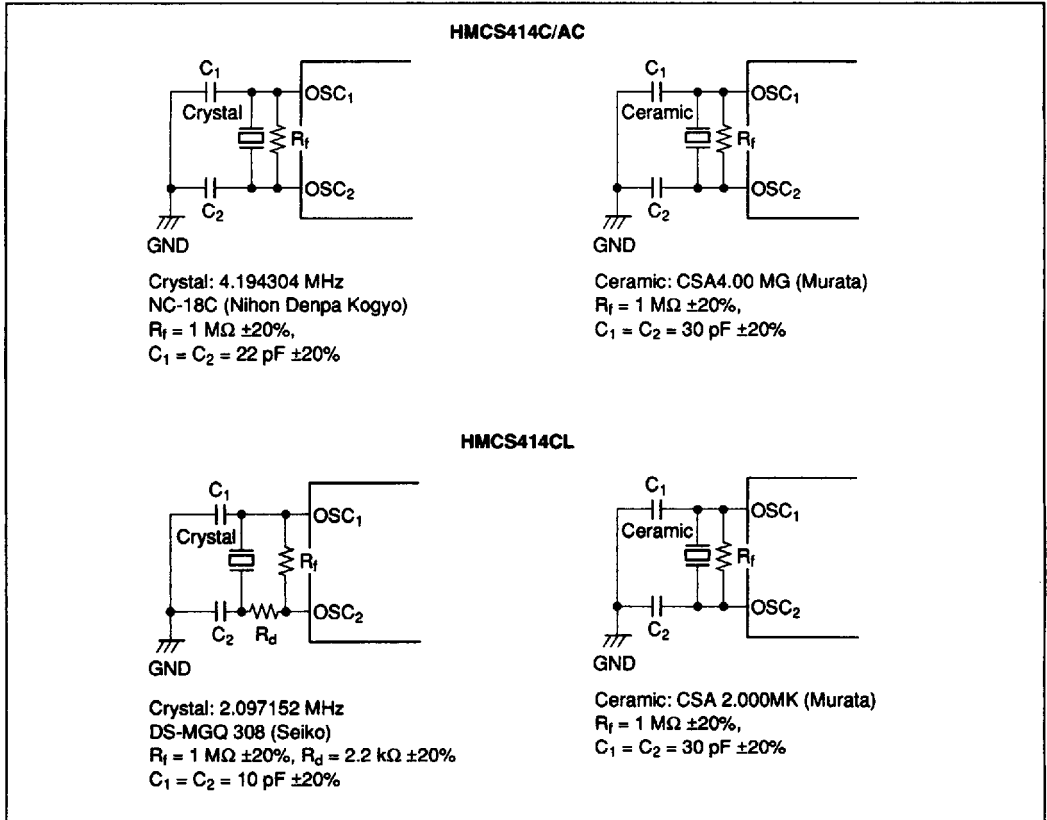

Figure 29 Oscillation Circuits
1. The oscillator stabilization time is period from when V_{CC} reaches its minimum allowable voltage (HMCS414C: 3.5 V, HMCS414CL: 2.5 V, HMCS414AC: 4.5 V) at power-on until when the oscillator stabilizes, or after RESET goes high. At power-on or recovering from stop mode, apply the RESET input for more than t_{RC} to meet the necessary time for oscillator stabilization. Since t_{RC} depends on the crystal or ceramic circuit constant and stray capacitance, consult with the crystal or ceramic oscillator manufacturer when designing the reset circuit. (See figure 29.)